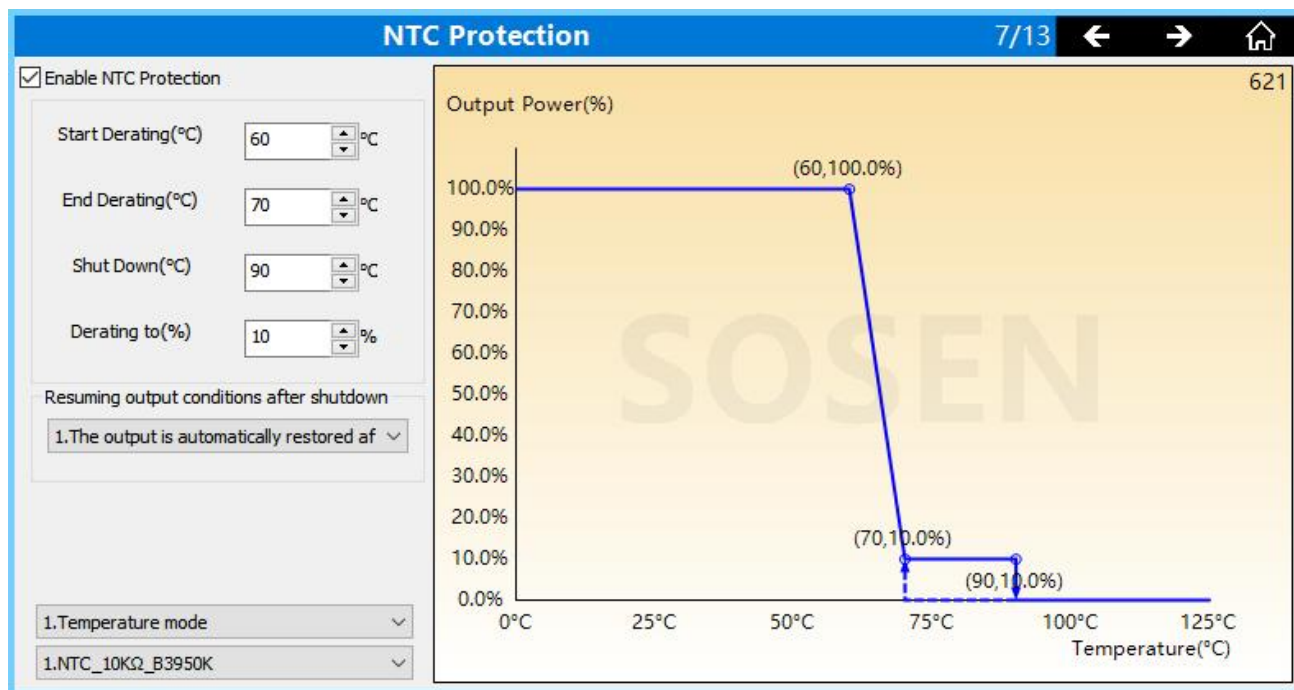

Figure 1
a.The NTC functions supported by the a.D4i model are shown in the functional interface shown in Figure 1.Models that support this feature include the 22PA-32F.Note: DALI2 models do not have NTC function.
b. Operation Logic:According to the parameter setting shown in Figure 1, as shown in the blue line, when the temperature is lower than 60°C, the output power is 100%; when the temperature is greater than 60°C and less than 70°C, the output power runs according to the slanting line between 60°C and 70°C, and the output